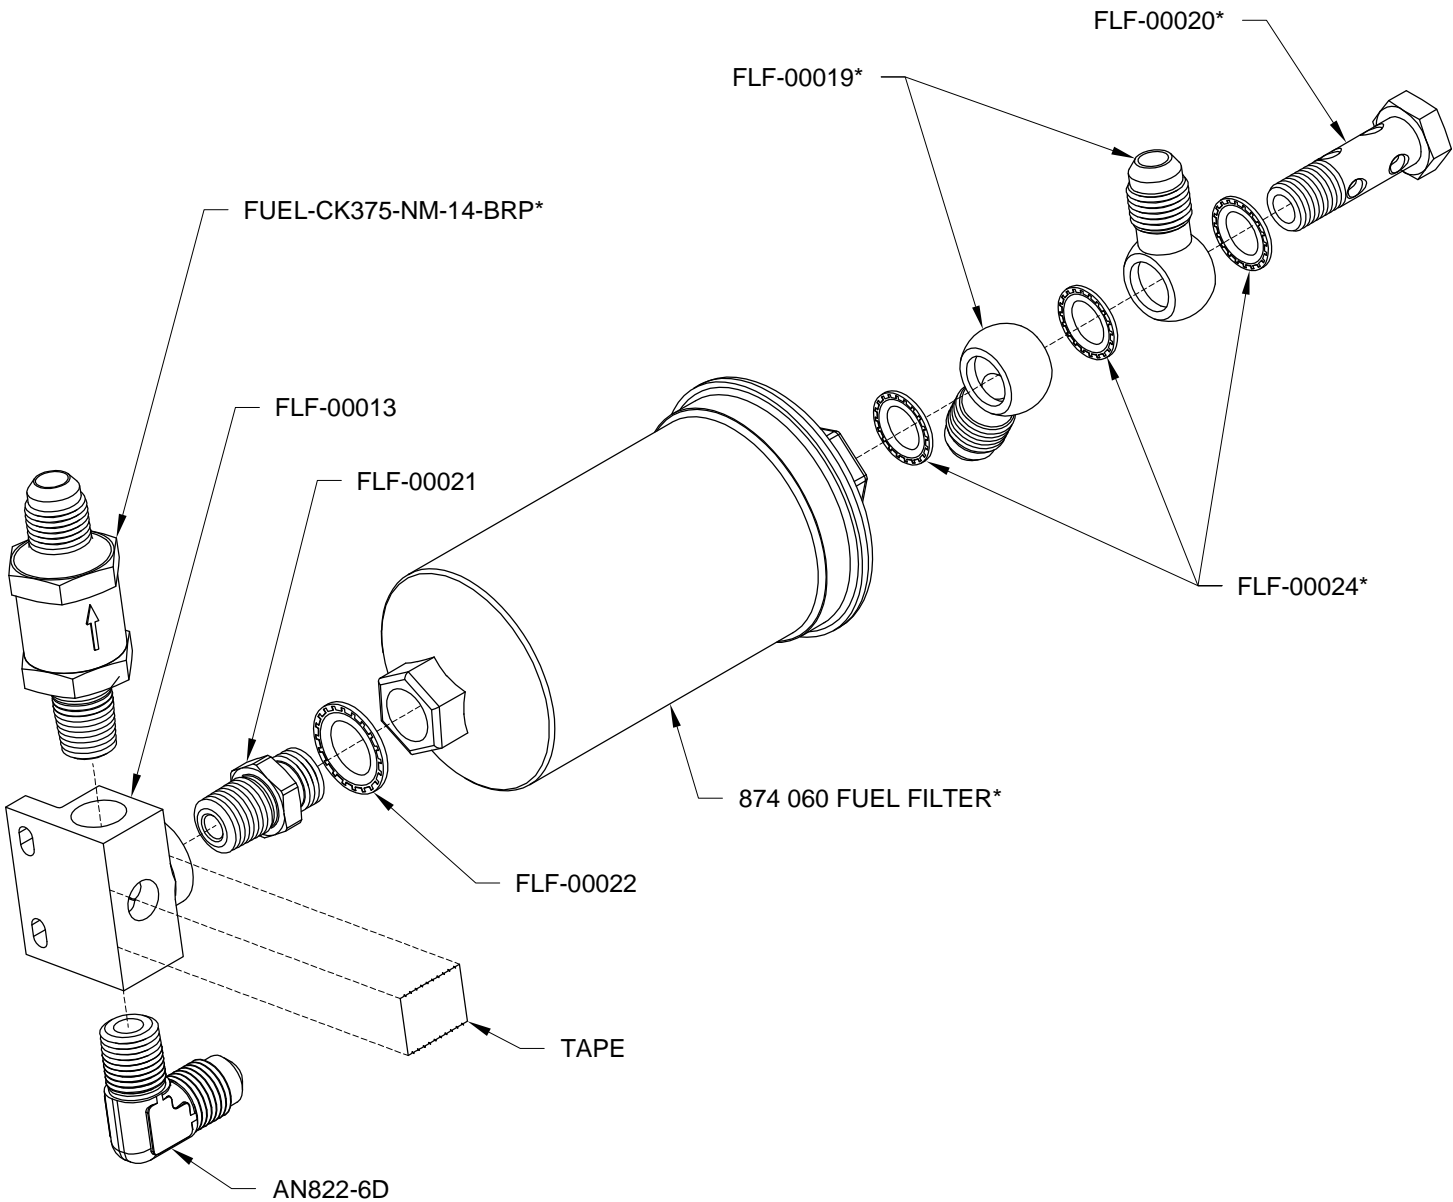

FIGURE 2: MAIN FUEL FILTER ASSEMBLY
Step 3: Assemble the fuel filter assembly, FLF-00021, and FLF-00022 as shown in Figure 2. Ensure that the FLF-00022 is centered on the FLF-00021, then torque the FLF-00021 to 40 in-lb.
Step 4: Assemble the fuel filter assembly, fluid fitting, FUEL-CK375-NM-14-BRP* (check the flow direction), and FLF-00013 as shown in Figure 2. Clock the elbow as shown.